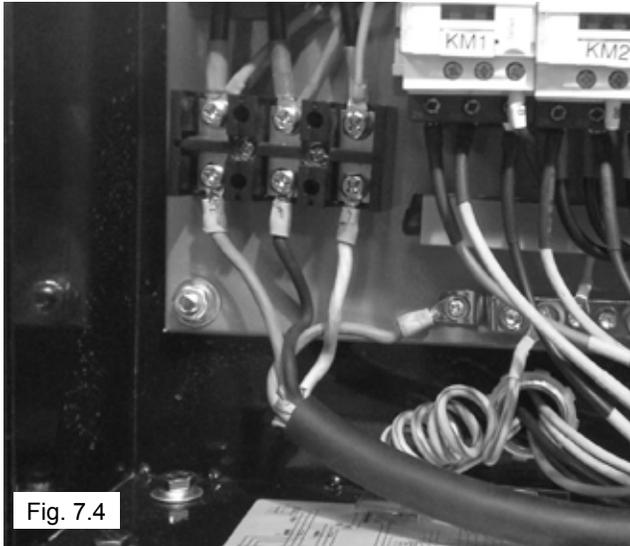

Fig. 7.4
3. Connect the Power Source Wires to the incoming Power Terminal Block. (See Fig. 7.4)